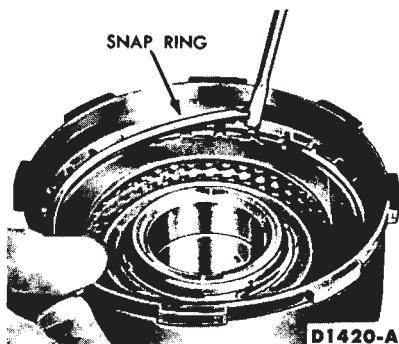

FIG. 44—Removing or Installing Reverse-High Clutch Pressure Plate Snap Ring
1. Separate the drive train as shown in Fig. 43. Remove the pressure plate retaining snap ring as shown in Fig. 44.